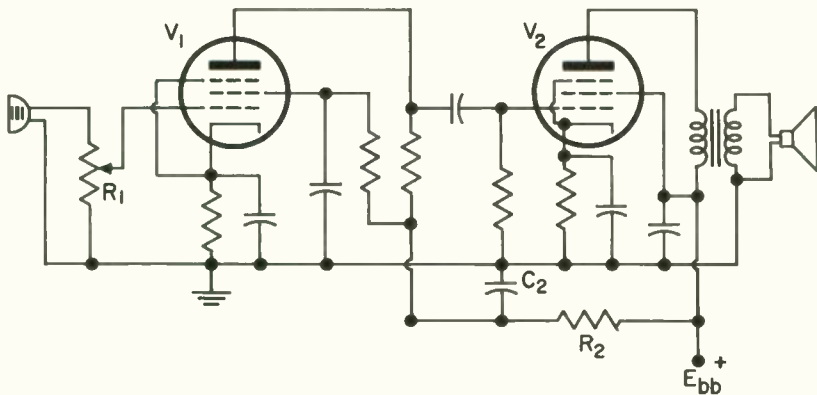

Fig. 24 Crystal microphone with two-stage amplifier.
Crystal microphones have a high impedance (on the order of 1 megohm), and they can therefore be connected directly across the grid resistor of a vacuum-tube amplifier. A simple two-stage amplifier with crystal microphone is shown in Fig. 24. Notice that no power source is needed with this microphone, because the crystal generates its own voltage. A potentiometer control R_1 is used to adjust the output volume level. A pentode is used for V_1 to provide a high voltage gain, and a beam power tube is used for V_2 because it has a high power sensitivity.
5. In the circuit of Fig. 24, R_1 serves as a _____ control.